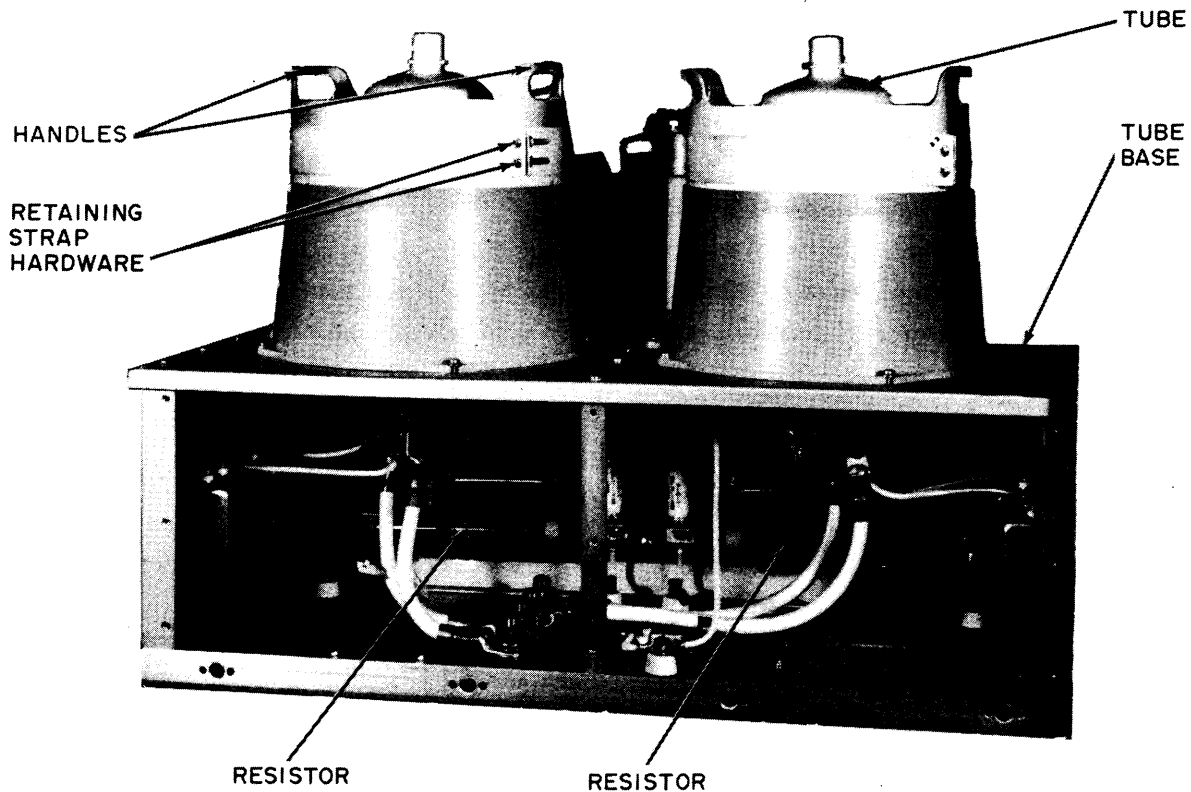

Figure 2-8. Upper Compartment, Second Frame, Rear View
(20) Temporarily remove hardware holding the rear plate to the tube base in the second frame, and remove the plate. Mount (referring to figure 2-8) fixed grid resistors R1204 and R1205 (contained in crate 1) between each set of snap-clips (one resistor per set of clips). Re-position plate and secure with hardware.
(b) Loosen hardware on retaining strap (figure 2-8).